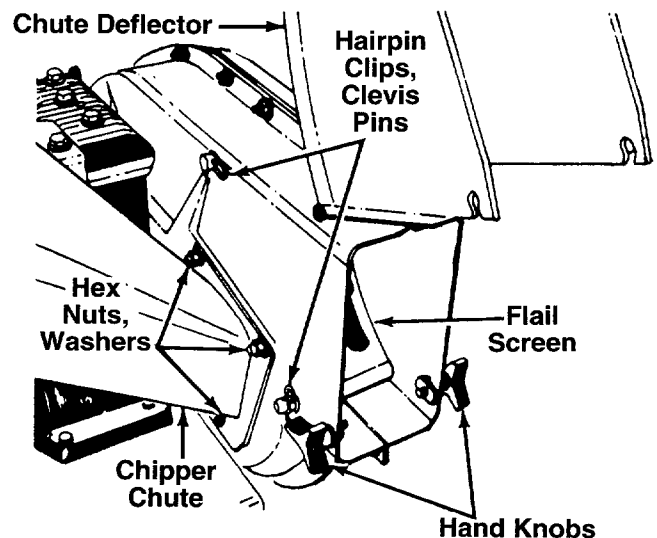

FIGURE 6.
3. Remove two hairpin clips from the clevis pins which extend through the housing. Remove the clevis pins. Lift the flail screen from inside the housing. See figure 6.
NOTE: Be certain to reassemble the flail screen with the curved side down as shown in figure 6.
3. Remove the chipper chute by removing three hex nuts and washers. A 1/2" wrench is required. See figure 6.